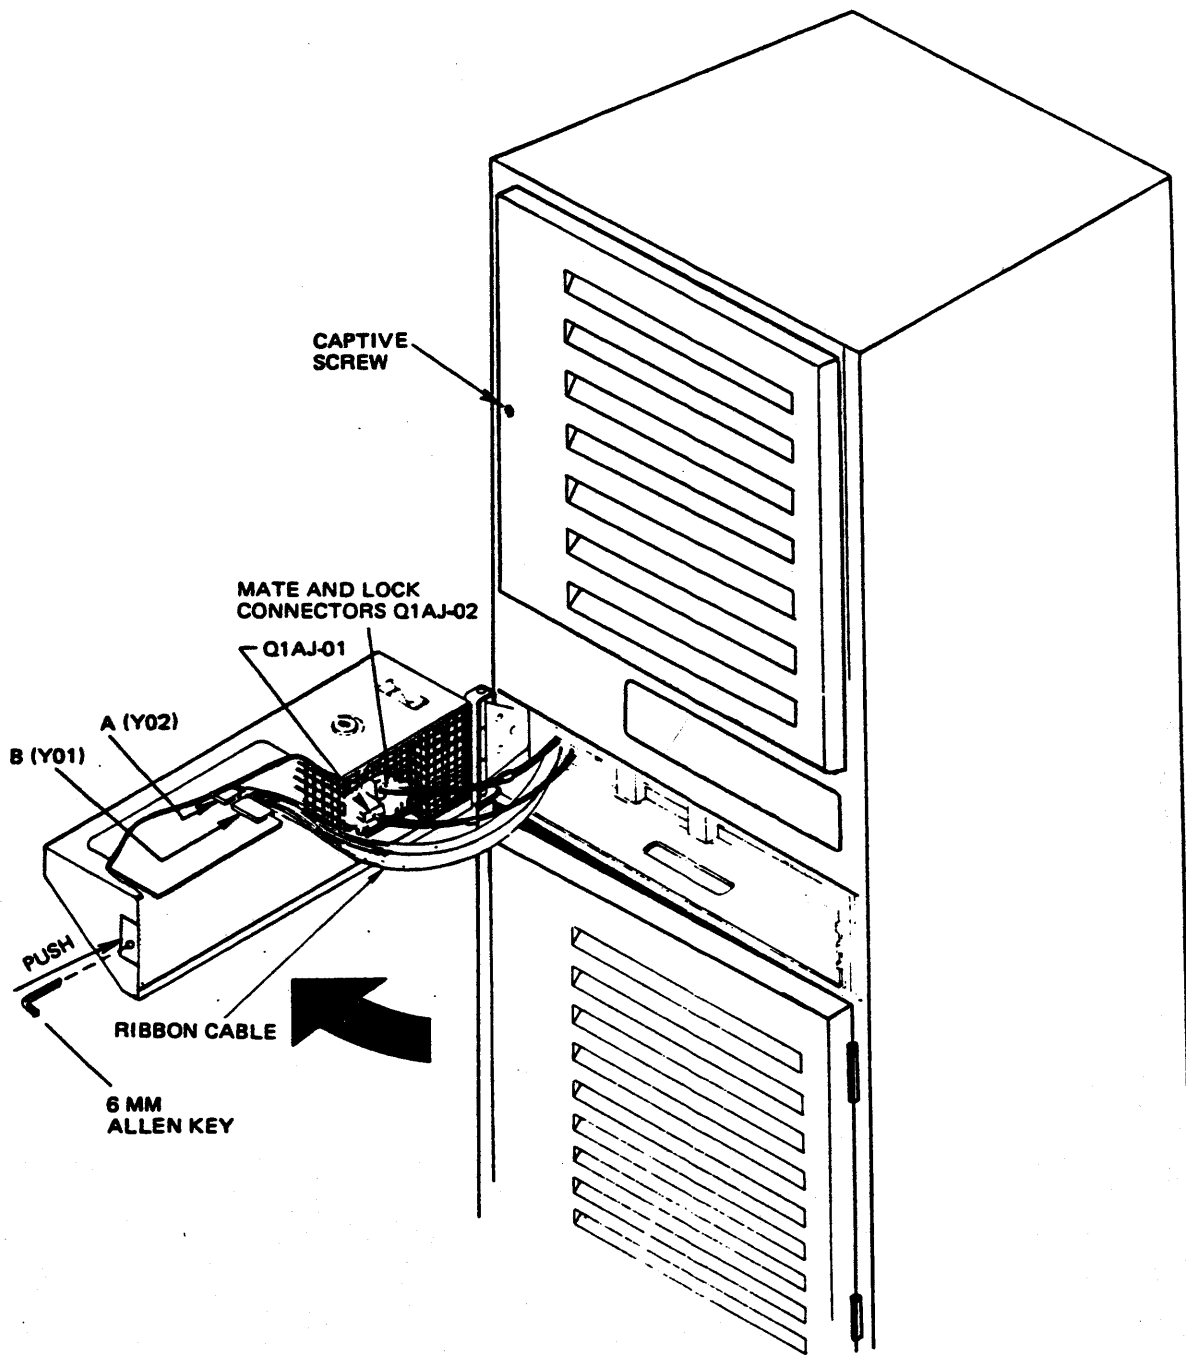

Figure 3-24 Operator Control Panel Installation
1. Open the control panel by inserting a 6-mm allen key into the key fitting on the latch and press inward (see Figure 3-24). The control panel release latch will disengage and the panel will open. Remove the allen key from the release latch and swing the panel away from the cabinet and to the left.
2. Connect the prefolded ribbon cable (60134476) from Y01 on the CPU-B board to Y01 and Y02 at the control panel board (see Figure 3-24). The cable has two connectors on one end, labelled A (Y02) and B (Y01).